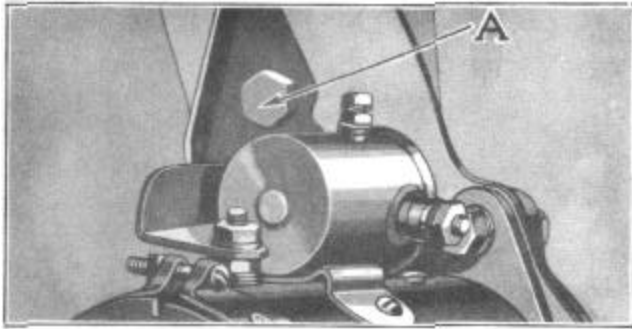

FIGURE 4
1. Remove plug (A) Figure 4 using socket wrench J-472.